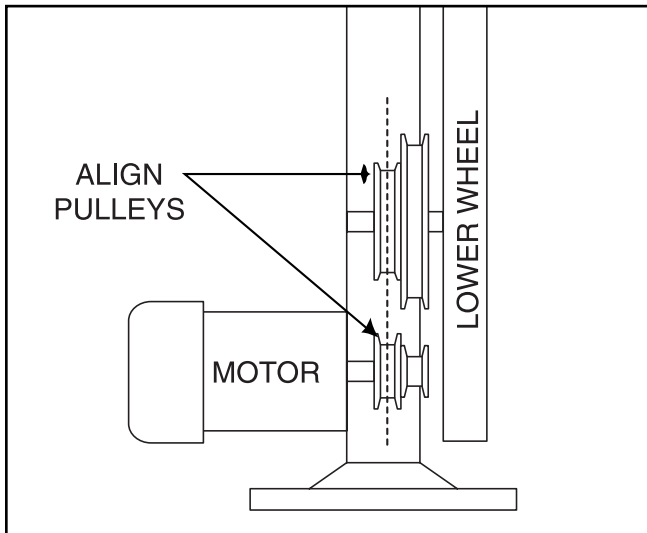

Figure 6. Schematic of proper pulley alignment.
5. Check for proper pulley alignment by placing a straightedge on the outside edge of the upper pulley so that it overlaps the motor pulley. If the straightedge touches both pulleys evenly, the pulleys are aligned. If the straightedge does not touch both pulleys evenly, the pulleys are not aligned. Loosen one or both of the pulley setscrews on their shafts and slide the pulleys toward alignment. Remember to retighten the setscrews when finished. **See Figure 6.**